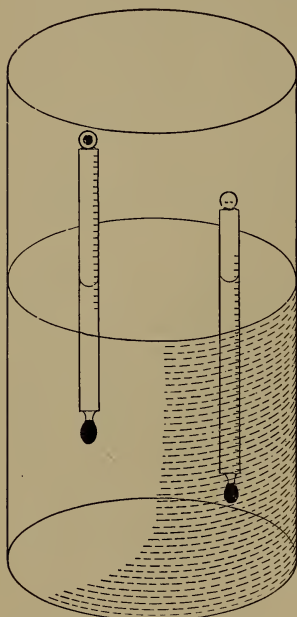

FIGURE 307.—THE HYDROMETER.
(2) The *hydrometer* (Figure 307) is an instrument used to determine the specific gravity of liquids. It is a tube, weighted at the bottom, that has a scale marked on the side. The depth to which it sinks gives the specific gravity reading.